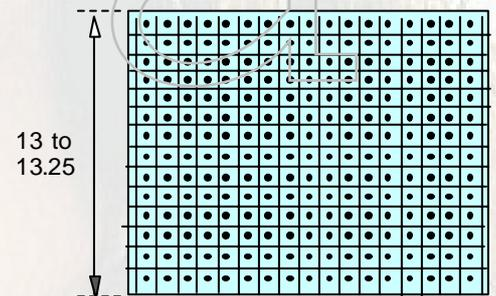

Fig.1-6 PAL CONVERGENCE
2. Use the [VOLUME +/-] key of the jig remote control and adjust until the numbers of squares in the upper and the lower parts of screen satisfy the specification. (Fig. 1-6.)